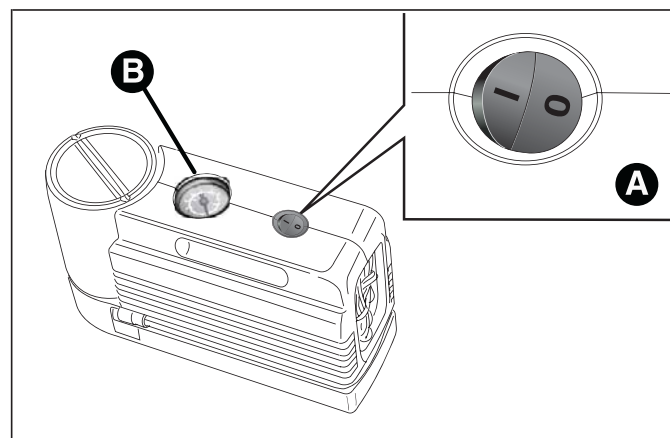
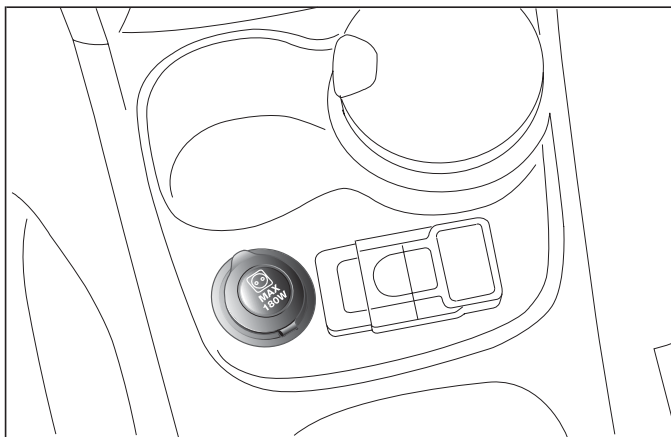

fig. 121
fig. 122
- ☐ make sure that the compressor switch A fig. 121 is in position 0 (off), start the engine, plug into the power socket in the central tunnel fig. 122 and operate the compressor turning switch A to position I (on). Inflate the tyre to the pressure specified in the "Inflation pressure" paragraph in the "Technical specifications" section. Check tyre pressure on gauge B fig. 121 with compressor off to obtain a more precise reading;